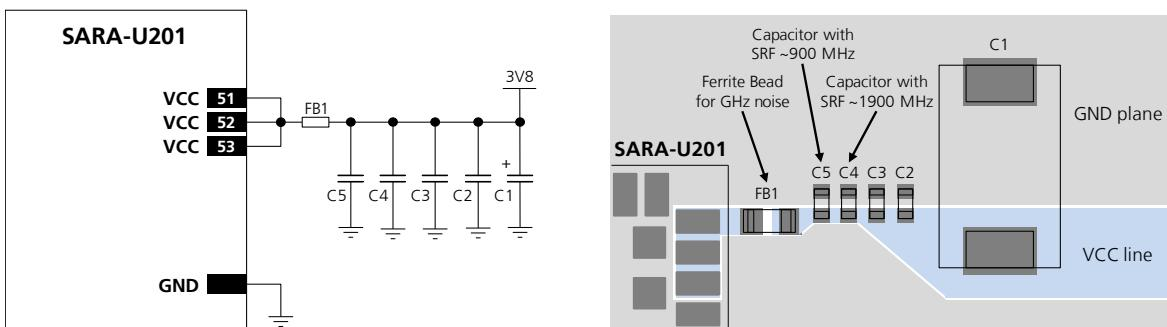

Figure 46: Suggested design for SARA-U201 module, highly recommended when using an integrated antenna
- Ferrite bead specifically designed for EMI noise suppression in GHz band (e.g. Murata BLM18EG221SN1) implementing the circuit described in Figure 46 to filter out EMI in all the GSM / UMTS bands. The ferrite bead can be replaced with a 0 (zero) Ohm jumper for other SARA-G3 and SARA-U2 series modules.
For devices integrating an internal antenna, it is recommended to provide space to allocate all the components shown in Figure 45 or Figure 46 and listed in Table 28. The mounting of each single component depends on the specific application design.